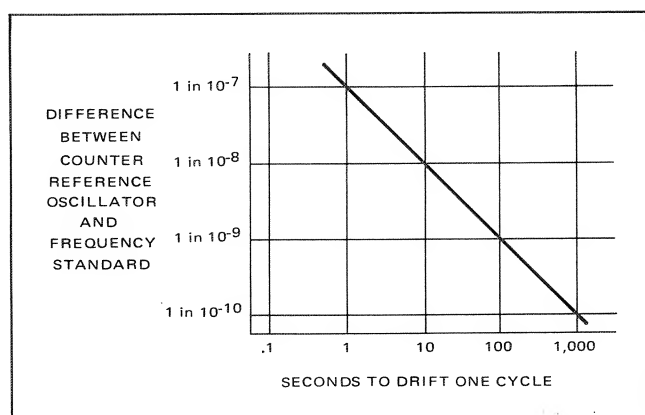

Figure 5.1 - Oscillator Drift
- f. To determine the drift rate, measure the time it takes the oscilloscope pattern to drift the width of one cycle on channel 2. Note: 1 cycle equals 5 divisions on the oscilloscope. The oscillator drift can be determined from figure 5.1.